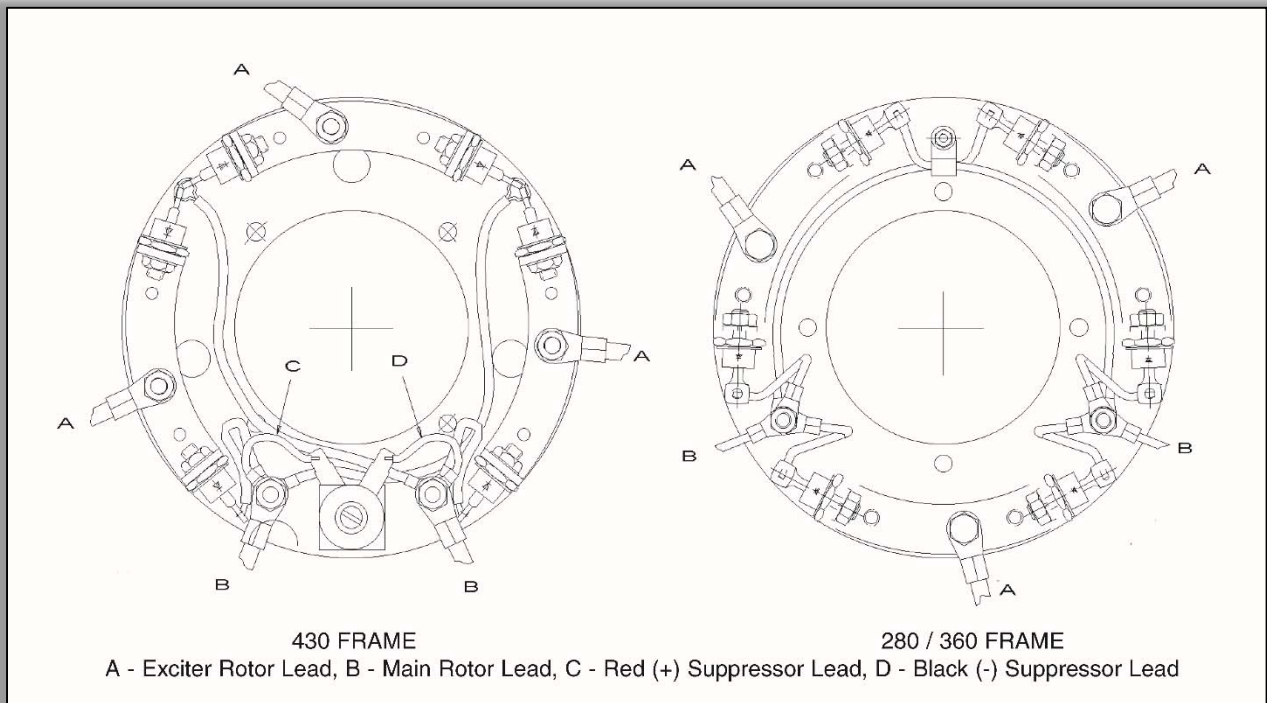

Figure 3
The diodes may be tested in place. Remove the two main rotor leads (B) and the three exciter rotor leads (A) from the rectifier assembly – see Figure 3. Note the location of each lead for proper reassembly. The diodes are now isolated from the generator and may be tested.